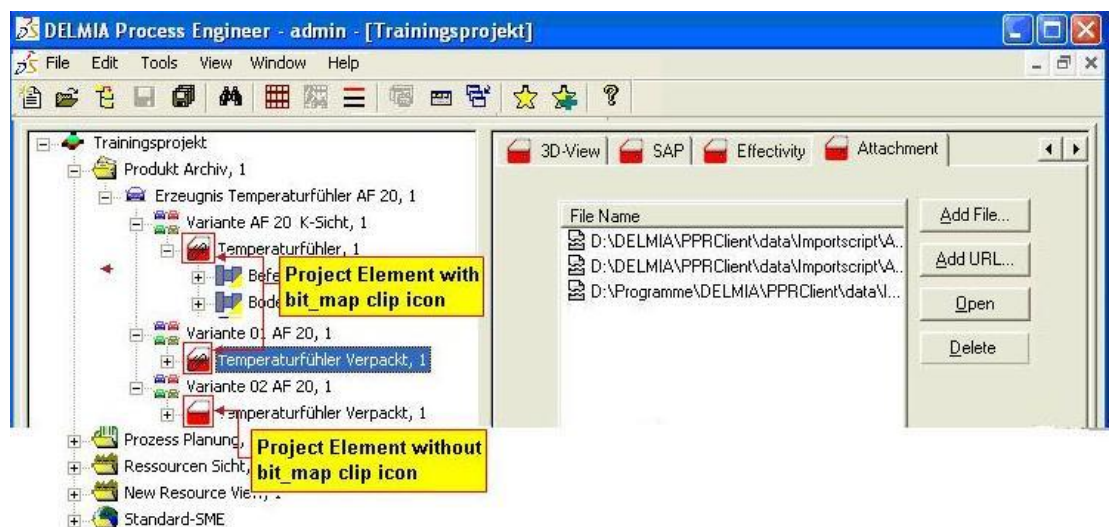

Figure 75: Project Elements with Attachments
- 4) Select **Attachment** tab. Attach the files in **Attachment** dialog. Project elements having attachments are displayed with overlaid **bitmap_clip** icon. Objects those not having the attachment area are displayed with the pre assigned icons. Please refer to the Figure 75.